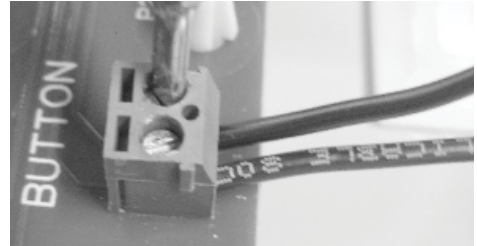

Figure 5 - Disconnecting the Pushbutton from the Indicator Board
1. Using a 2.5mm *Straight Blade Screwdriver*, loosen the screws of the “BUTTON” connector (P1). See Figure 5